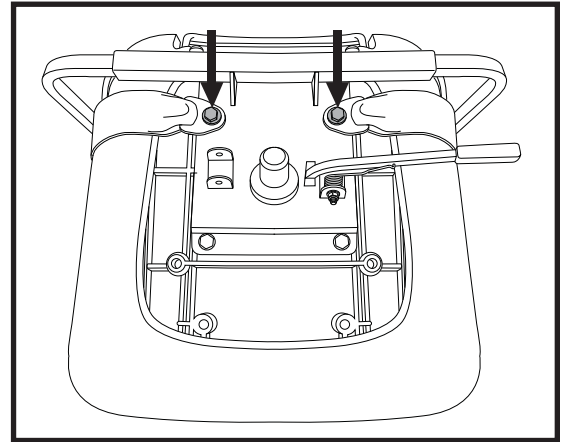

Figure 27. Positioning Belt Bolts
2. Place the seat upside down so that you can see the bottom of the seat base. **See figure 27.**